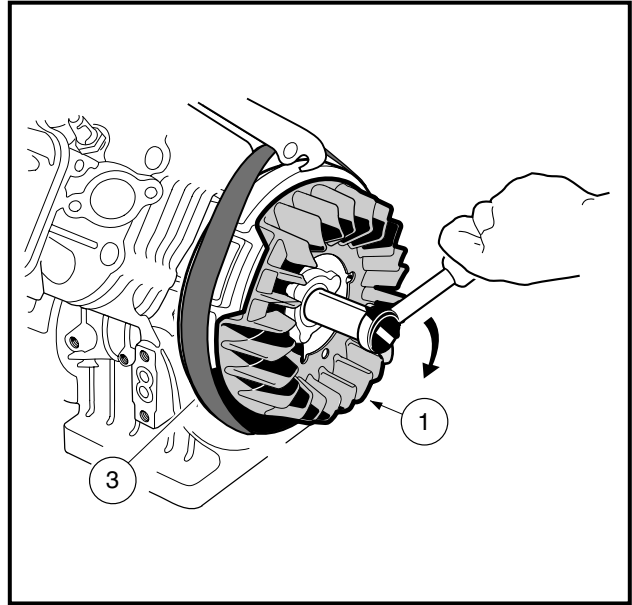

Figure 13-108 Fan and Flywheel Assembly
3. Use a strap wrench (3) to keep the flywheel and fan assembly (1) from turning while tightening the flywheel nut to 63 ft-lb (85.4 N·m) (**Figure 13-108, Page 13-49**). **See following CAUTION.**